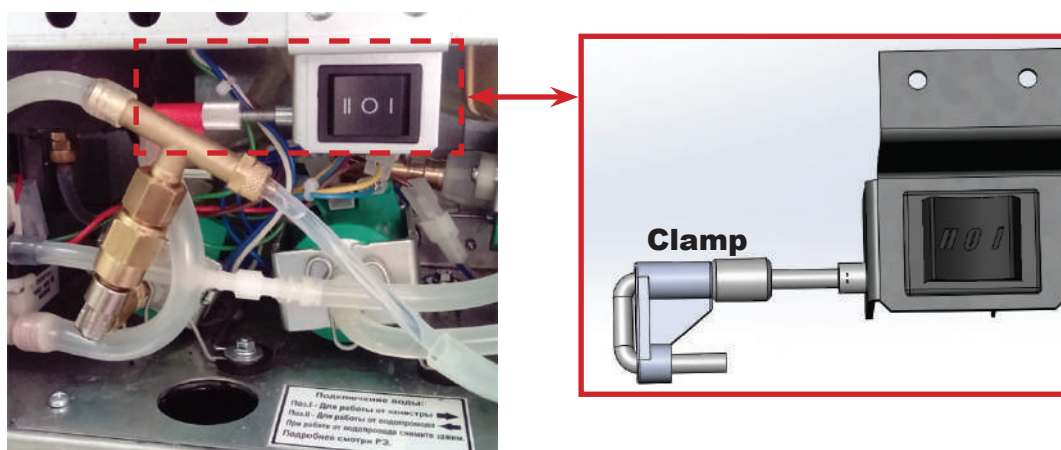

Fig.4.18
- Remove the clamp from the silicone tube (see fig. 4.18);
- Turn the switch to the “I” position (see fig. 4.18);
1. In item 1 select the setting **(Installed)**;
2. In item 5 put the clamp back on the tube (see fig. 4.18);
3. In item 6 turn the switch to the “I” position (see fig. 4.18).